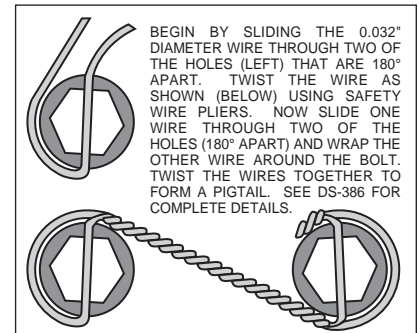

Figure 3. Safety Wire Diagram
- Apply red *Loctite*® 271 to bolt threads (2 and 3) before assembly of the caliper mounting bracket (1). Mount bracket (1) to dust face plate of spindle by screwing bolts (2) into steering arm, finger tighten only. Install bolts (3) through caliper mounting bracket (1) and steering arm, secure with lock washer (4) and nut (5), finger tighten only. Torque bolts (2 and 3) to 30-35 ft-lb. **NOTE:** Be sure the heads of the bracket (1) insert nuts are facing outward toward the wheel.
- Install wheel studs (6) into the hub (7). Torque to 77 ft-lb. **NOTE:** There are two five lug patterns in the hub (5 x 4.50 and 5 x 4.75). Make sure of the correct hole pattern for the correct wheel application before installing studs into hub.
- Pack the large inner bearing cone (8) with high temperature disc brake bearing grease (available from your local auto parts store) and install into the backside of the hub (7).
- Install the grease seal (9) by pressing into the backside of the hub (7).
- Attach rotor adapter plate (10) to rotor (11) using bolts (12). Torque bolts (12) to 180 **in-lb**. Safety wire bolts (12) using standard 0.032 inch diameter stainless steel safety wire as shown in Figure 3. Please refer to Wilwood's data sheet DS-386 (available at www.wilwood.com/pdf/ds386.pdf) for complete safety wire installation instructions. **NOTE:** Dished side of adapter plate (10) should face hub (7). The mounting tabs on the rotor (11) should face toward the hub as well and line up with the holes on the adapter plate (10).